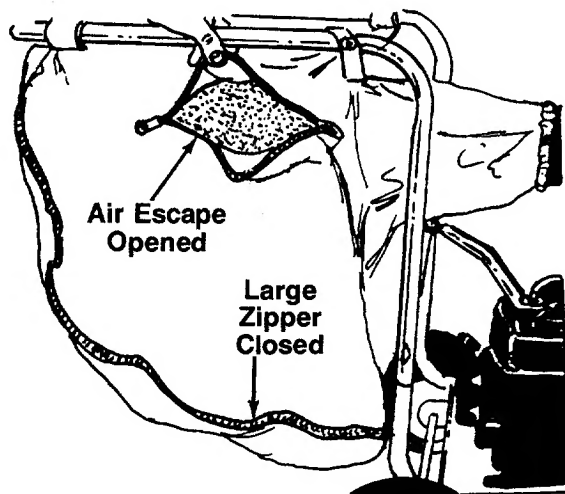

FIGURE 16.
**IMPORTANT:** The vacuum bag may have an air escape located on the upper right hand side. See figure 16. The air escape can be opened if the vacuum is operated in wet, sandy or muddy conditions.